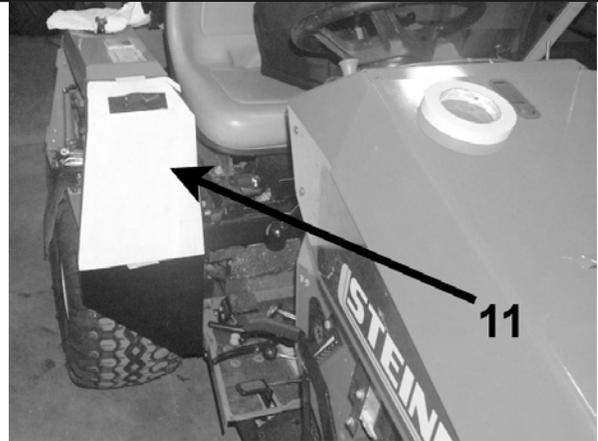

Figure 1
1. Cut along lines of template **11** with a scissors. Align cut edges with bottom and inside edge of the battery box. Center punch on the center line marks of the three holes. Drill the top two holes to  $\text{Ø}.344$  (11/32). Drill the bottom hole to  $\text{Ø}.390$  (25/64). (**Figure 1**)